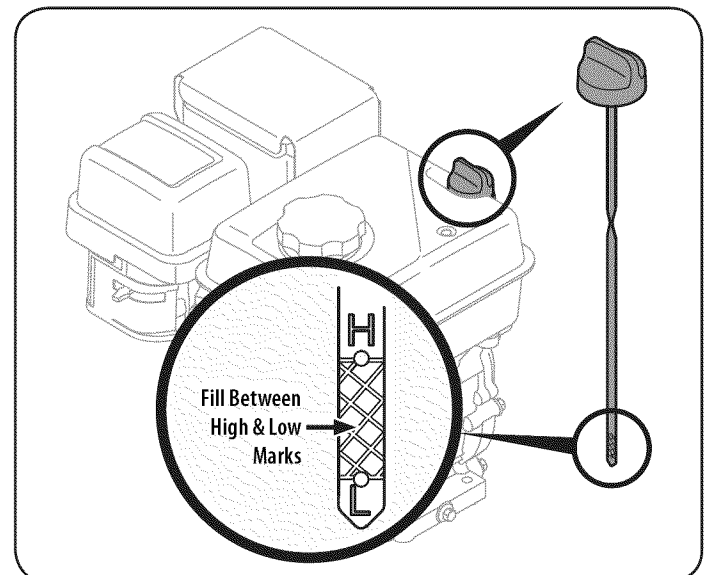

Figure 10
2. Check the oil level making certain not to rub the dipstick along the inside walls of the oil fill tube. This would result in a false dipstick reading. Refill to between the HIGH (H) and LOW (L) marks on the dipstick, if necessary. Replace the dipstick and tighten. See Figure 10.